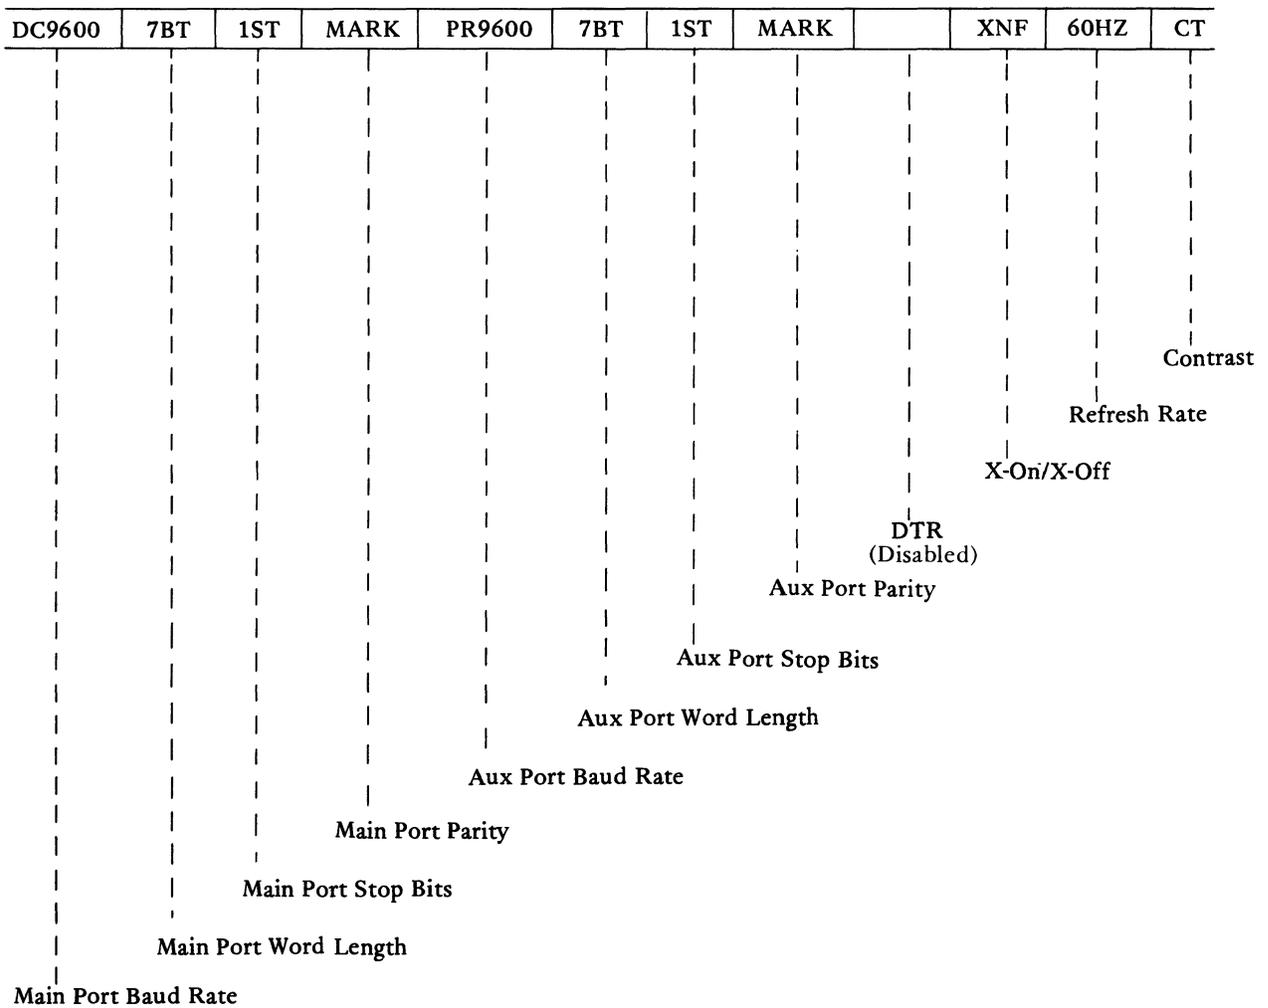

Figure 4-1: Set-Up Line A
3. The previously displayed Status Line will be replaced by Set-Up Line A (see Figure 4-1). This line will display the current communication parameter values stored in the terminal’s memory, and the screen refresh rate. The Contrast Control field is also located in this line.
Figure 4-1 and 4-2 show each parameter field and the factory default values of each field. To change any of these values, follow the instructions provided in the previous subsection. For a description of each field, refer to Table 4-4.